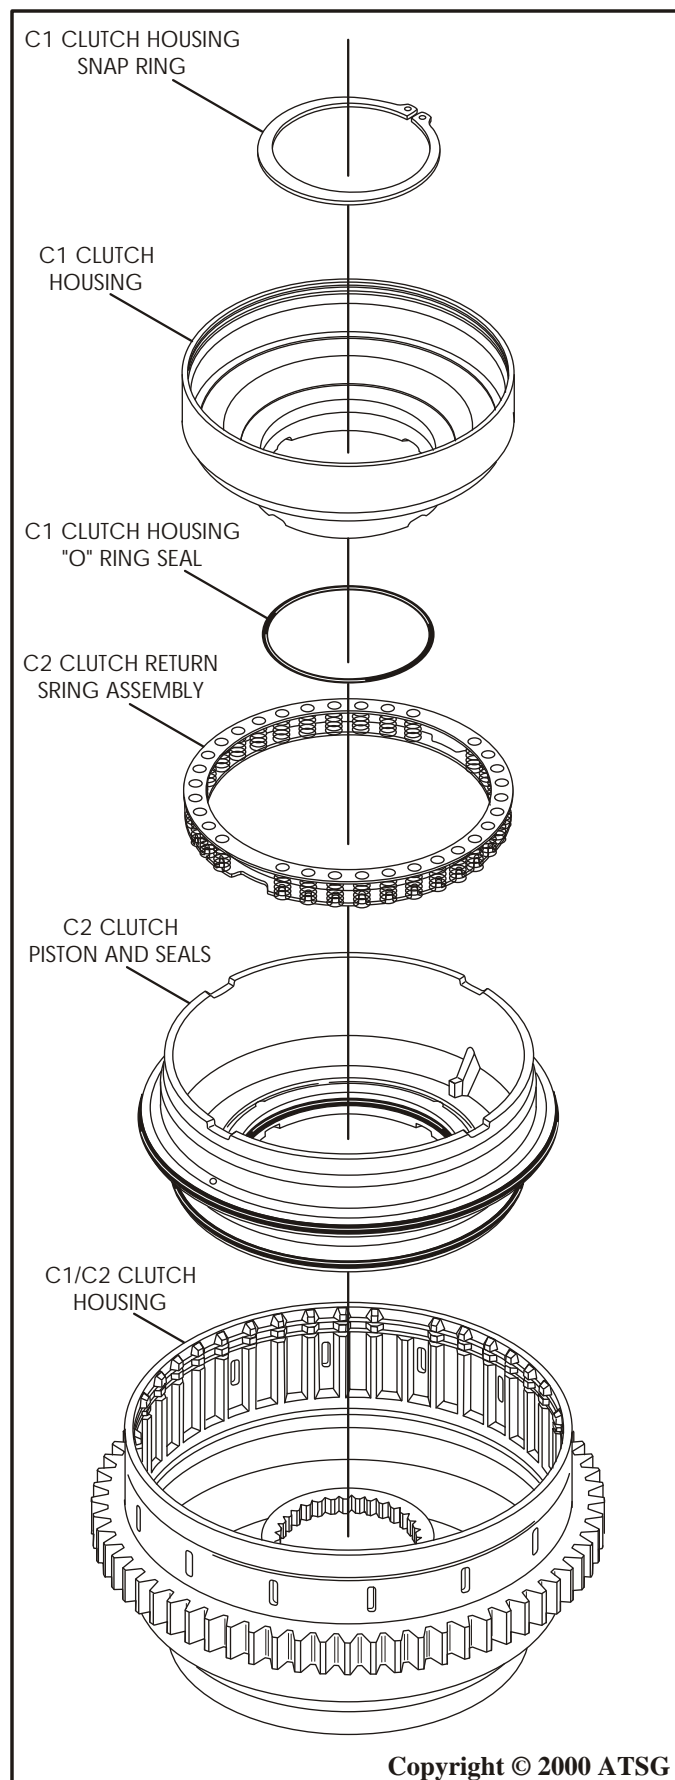

Figure 105
10. Install the C2 clutch piston and seals into the C1/C2 clutch housing as shown in Figure 105.
11. Install the C2 piston return spring assembly on top of the C2 piston in the housing, as shown in Figure 105.
13. Lubricate the installed "O" ring seal and inside diameter of the C1 clutch housing with a small of TransJelä, and install the C1 clutch housing as shown in Figure 105.